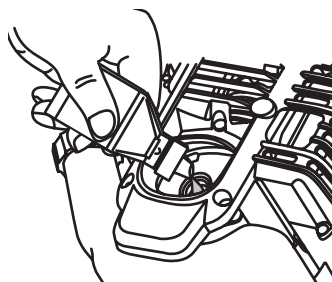

Fig. 18
4. Pour the entire bottle of oil into the oil fill hole (Fig. 18).